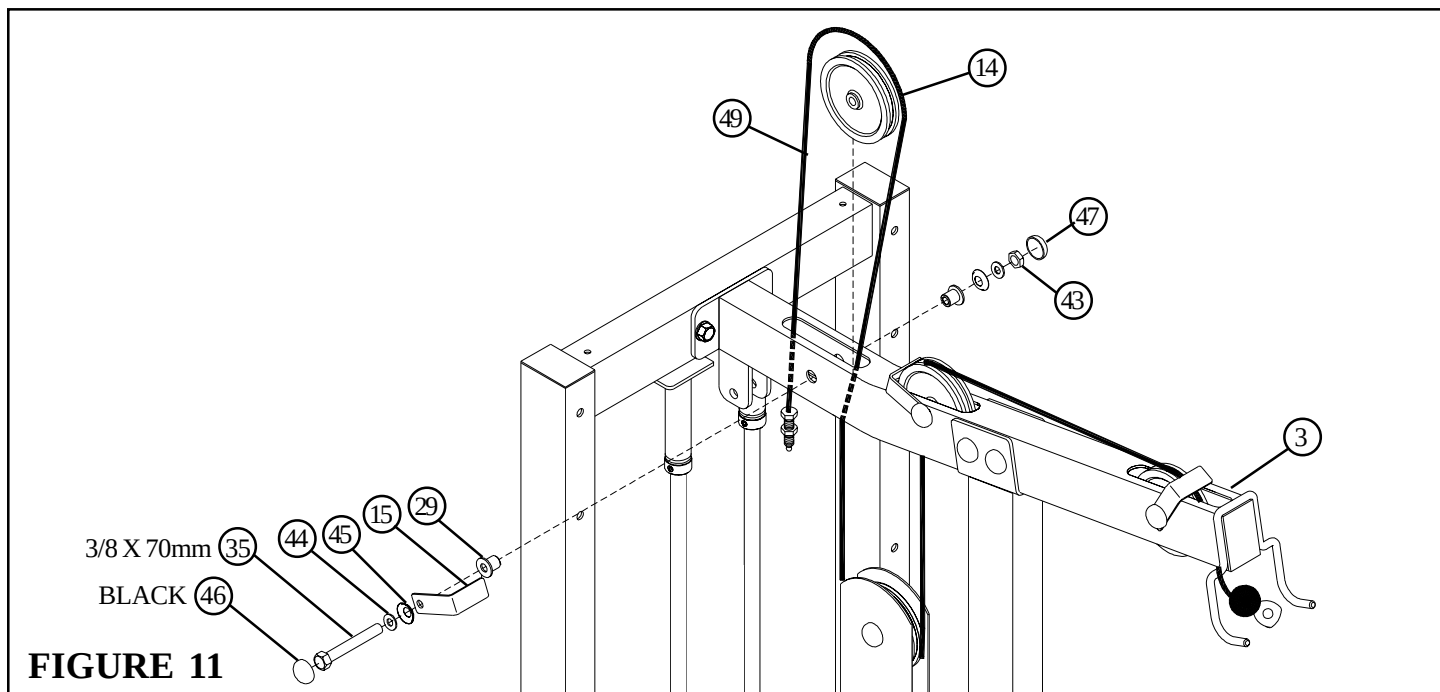

FIGURE 11
- Route the LAT CABLE (49) back through the LAT/LOW BOOM (3) as shown and **SECURELY** assemble one 4-1/2" PULLEY (14) to the LAT/LOW BOOM (3) using one BLACK RH CAP (46), one RH CAP (47), one 3/8 X 70mm BOLT (35), two 3/8" SAE WASHERS (44), two 3/8" RH WASHERS (45), one 2-7/8" X 2-1/4" CABLE CLIP (15), two 3/8 X 1/2" FLANGE SPACERS (29) and one 3/8" LOW HEIGHT LOCK NUTS (43) as shown in FIGURE 11.